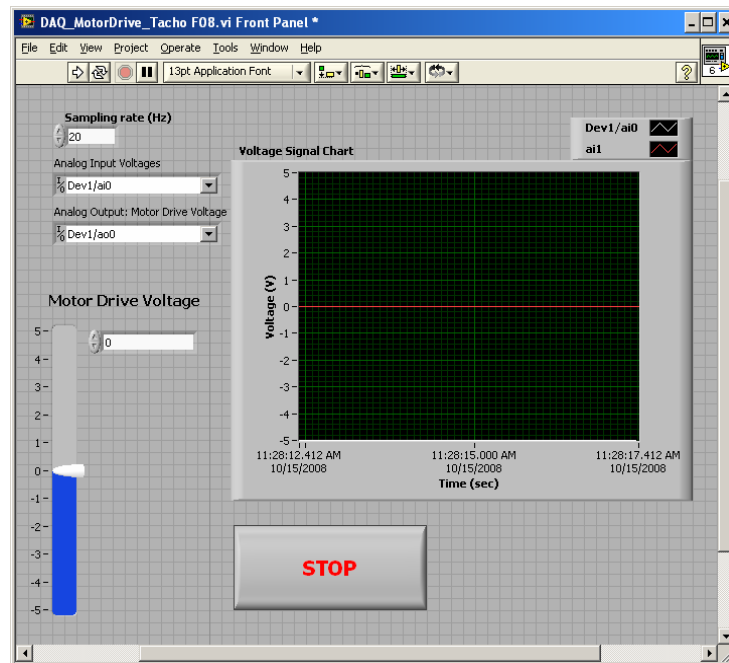

Figure 1. Front Panel for **yourname_MotorDrive_Tacho.vi**
- Save this completed VI as **yourname_MotorDrive_Tacho.vi**. It should look similar to Figure 1 and Figure 2.